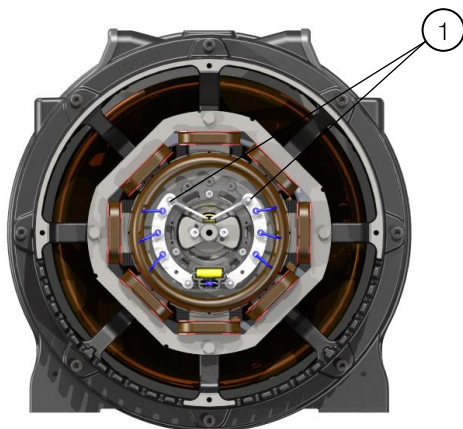

Figure 12.5: Connection of the power supply cables of the main rotor
1. Withdraw the main rotor power supply cables, connected to the diodes wheel, according to Figure 12.5.
Key of Figure 12.5: